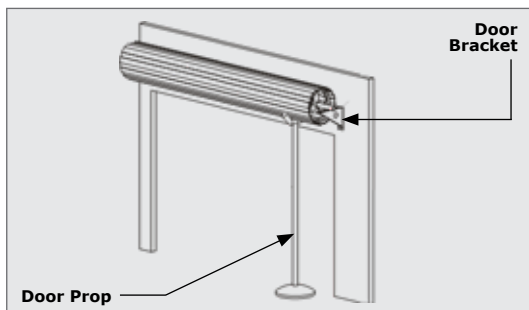

FIGURE 11. RHS CONFIGURATION
1. Check that the door U-bolt is securely tightened on the opposite end of the door to which the Drive Unit will be fitted. See Figure 11.